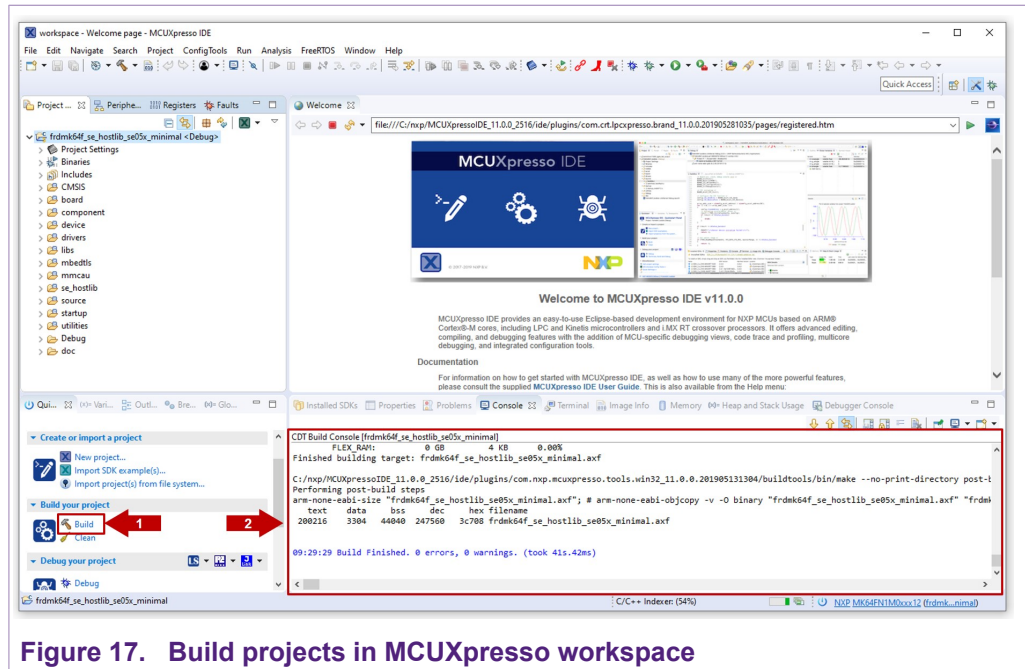

Figure 17. Build projects in MCUXpresso workspace
3. Go to the MCUXpresso Quickstart Panel and click *Build* button as shown in Figure 17. Wait a few seconds and check that the build process has finished successfully in the MCUXpresso console window.